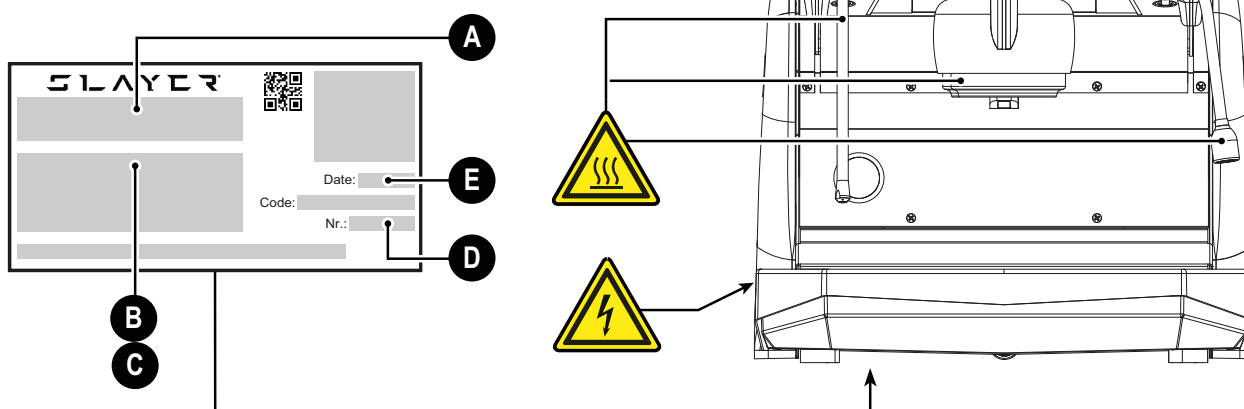

Fig. 3.1 - Labels on the machine
**WARNING:** Keep the safety labels (see Fig. 3.1) clean and fully legible. Replace worn, illegible labels with identical new ones in the same positions.
The identification plate (see Fig. 3.1) is attached directly to the machine.